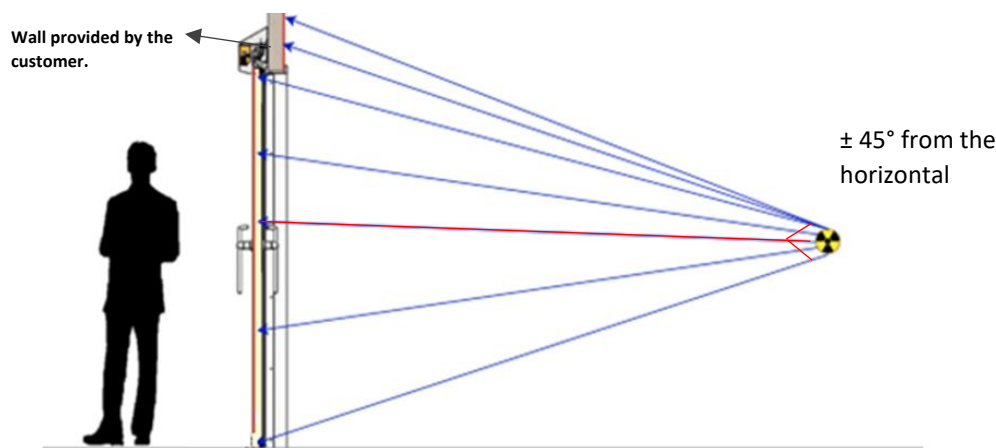

Figure 1 A Metaflex Medinox door providing radiation protection.
1. The source of the radiation (primary source) is Static and located at least one (1) meter away from the front of the door and one (1) meter above the floor (centered to the door).
2. The radiation must reach the door below ($\pm 45^\circ$ from the horizontal) (see figure1).
Figure 1 shows how the E11 door system provides protection against radiation in an enclosure which has a source of radiation for radiological application.